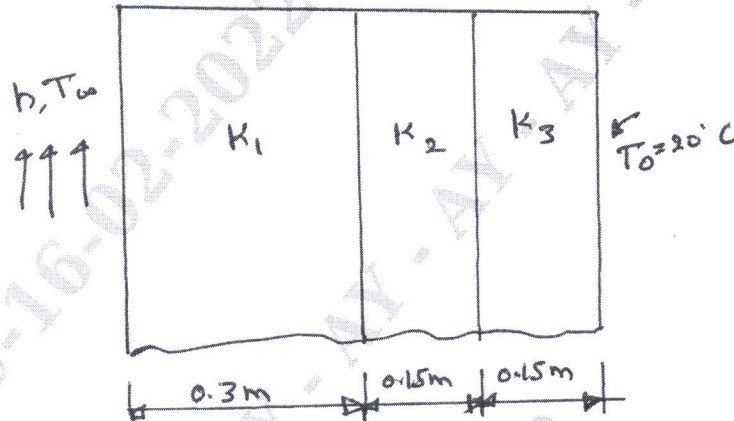

Fig.Q7(b)
- b. A composite wall consists of three materials as shown in Fig.Q7(b). The outer temperature is $T_0 = 20^\circ\text{C}$. Convection heat transfer takes place on the inner surface of the wall with $T_\infty = 800^\circ\text{C}$ and $h = 25 \text{ W/m}^2\text{C}$. Determine the temperature distribution in the wall. Take $K_1 = 20 \text{ W/m}^\circ\text{C}$, $K_2 = 30 \text{ W/m}^\circ\text{C}$, $K_3 = 50 \text{ W/m}^\circ\text{C}$.